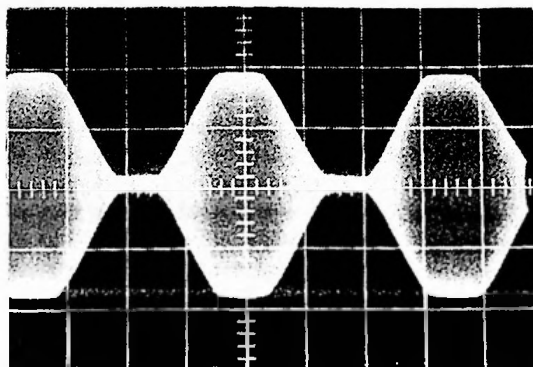
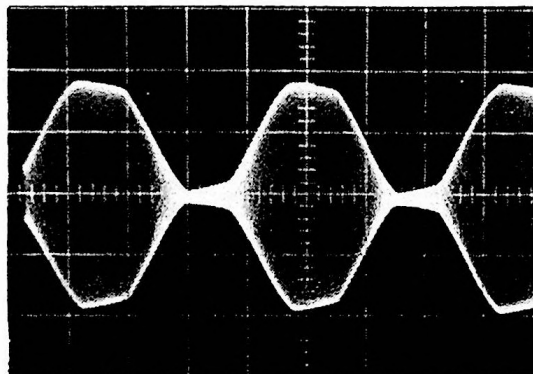
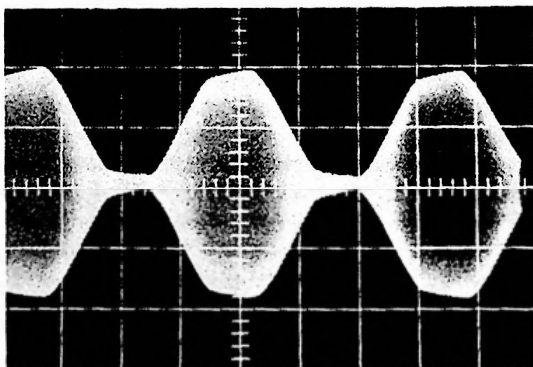

FIGURE 2-7 NORMAL MODULATION ENVELOPE
FIGURE 2-8 UNDER-CORRECTED MODULATION ENVELOPE
FIGURE 2-9 OVER-CORRECTED MODULATION ENVELOPE
NOTE: If the modulation envelope as viewed on the oscilloscope appears as in Figure 2-7, no tilt correction is necessary and the following procedure should not be performed.
7. If tilt is present as shown in Figure 2-8, enable the tilt correct circuitry by rotating the front panel **TILT CORRECT** potentiometer until it just "clicks" on.
8. If tilt is present, as shown in Figure 2-8, adjust the **TILT CORRECT** control to obtain a waveform similar to Figure 2-7. Over-correction will resemble Figure 2-9 and cause poor performance. Turn **TILT CORRECT** control counter-clockwise to correct.
5. As viewed on the oscilloscope, it should be noted if bass notes clip in a similar tilted manner as shown in the photo of Figure 2-8. If this is the case, proceed to step 6. If the clipped bass information appears similar to Figure 2-7, no correction is necessary.
7. Adjust the SMP front panel **TILT CORRECT** control such that bass clipping is horizontal (as in Figure 2-7). The trace should be studied for several minutes as the adjustment is made to verify that the majority of low frequency tilt is removed.